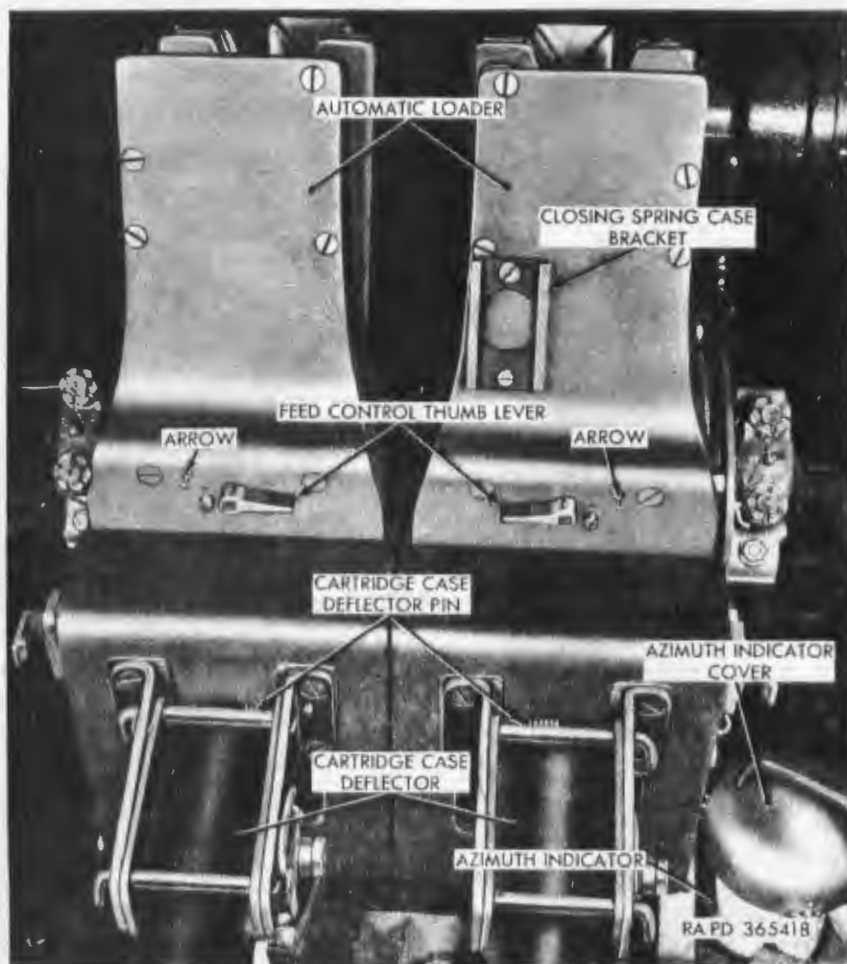

Figure 34. Feed control thumb levers.
c. *Feed Control Thumb Levers* (fig. 34). A feed control thumb lever is located on the rear of each automatic loader. The function of this lever is to stop automatic fire while one cartridge remains on the loader tray and one cartridge remains in the loader. This